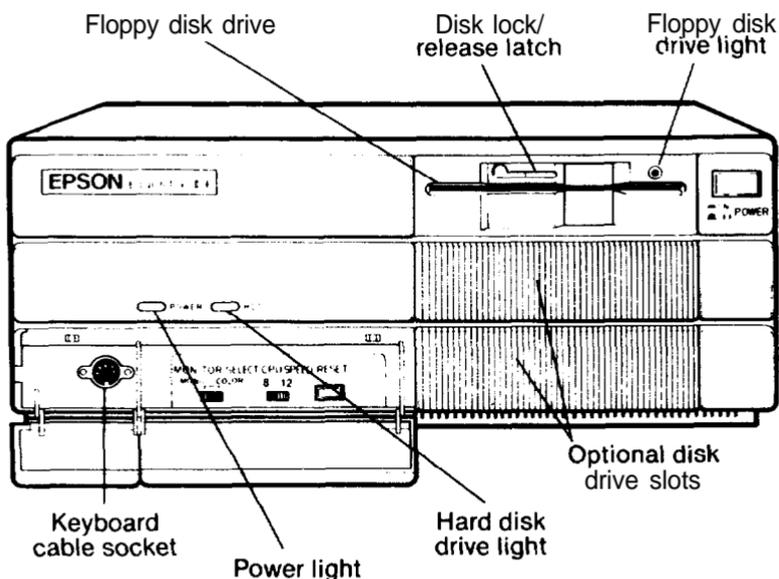

Figure 1-2. Front panel
Figure 1-2 identifies the various components on the front panel. To view the keyboard socket and control switches, gently press in each cover on the lower left side of the front panel. This releases the cover and you can gently pull it down to view the switches.
5. Set the monitor switch on the front panel of the main unit for the type of monitor you are using. (See Figure 1-2.) Slide the switch to the left for a monochrome monitor or to the right for a color monitor.